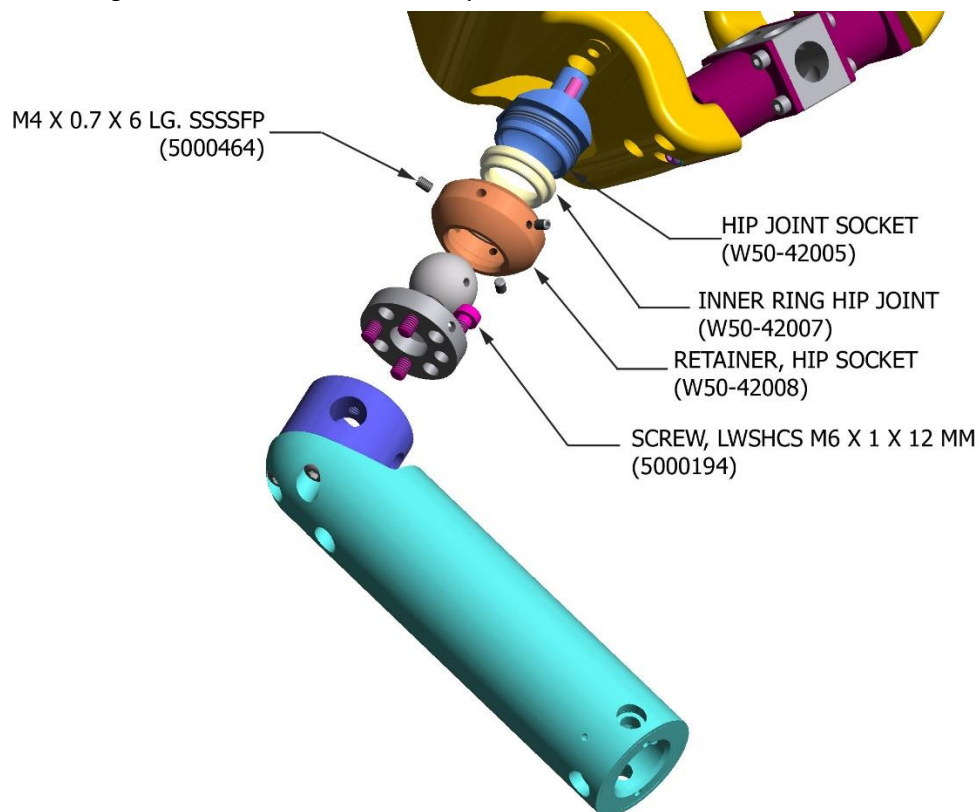

Figure 7-33 Leg to Pelvis Assembly.
1. Push the dowel pins (2) into the Hip Joint Socket (W50-42005).
2. Stack hip joint ball (Figure 7-33), hip joint inner ring (W50-42007), hip joint Socket Retainer (W50-42008) and femoral neck (W50-51035) and screw the femoral neck into the ball. Make sure the inner ring spherical race is facing the ball. Use a spanner wrench tool to grip the ball.